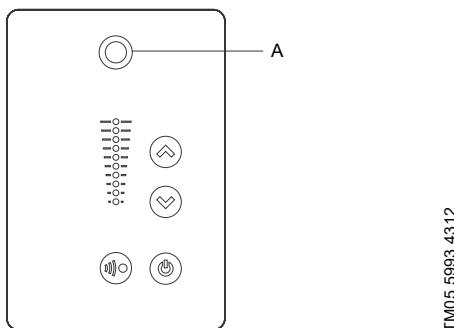

Fig. 70 Grundfos Eye
The operating condition of the motor is indicated by Grundfos Eye on the control panel. See fig. 70 (A).